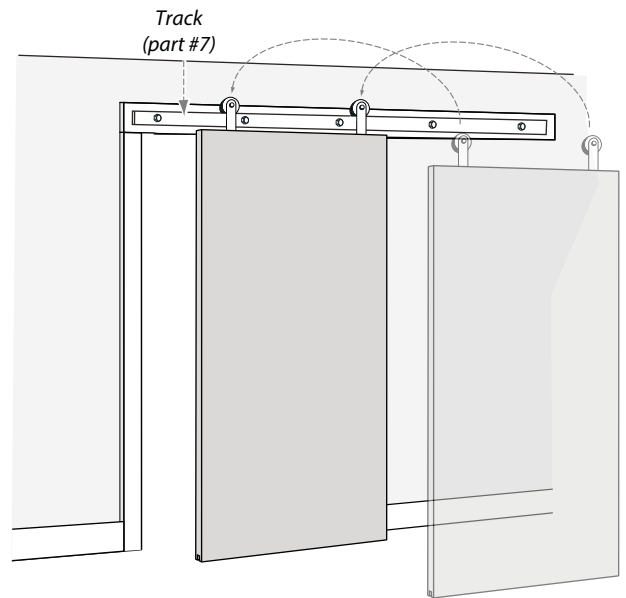

Figure 7
- Carefully place the door on the track (figure 7).